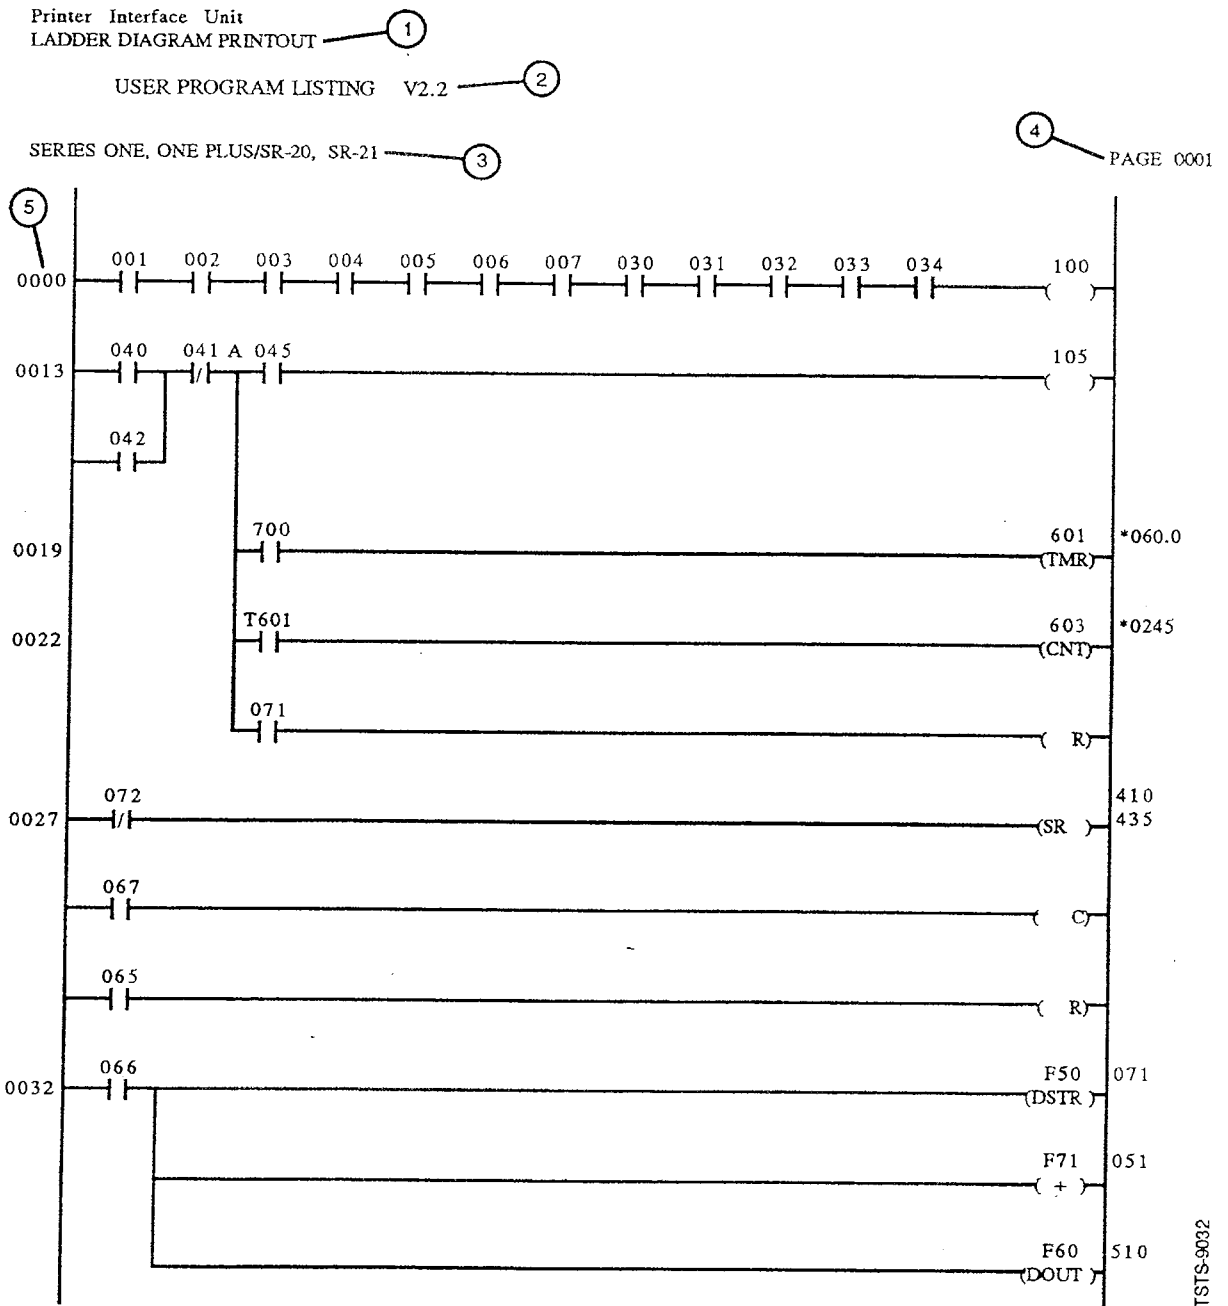

Figure 4-26 Sample Ladder Diagram Printout
Several items appearing on the printouts in Figures 4-26 and 4-27 are explained for clarification. The ladder diagram printout in Figure 4-26 has a circled number (1-5) next to each annotation, which corresponds to the number preceding the explanation of each annotation below. In Figure 4-27, the circled numbers (6-7) appear before an annotation on the Boolean printout. The circled numbers that appear in Figures 4-26 and 4-27 are for discussion purposes only and do not normally appear on a printout.
5. Refers to ladder diagram printout only. This 4-digit decimal number is the user program memory address at the start of each rung of logic. This number is assigned by the controller and is not part of the programming keystrokes. The first element in the rung is stored at that address. In the example in Figure 4-26, the memory address of the start of the first rung is 0000. The first element in that rung is a normally open contact referenced as 001 (reference number is printed directly above the contact). The memory address at the start of the second rung is 0013, the first element in this rung is a normally open contact referenced as 040.
A sample of each of the previously described printouts is shown in Figures 4-26 and 4-27. For this group of printouts, a program was entered into a Series One Plus PC.